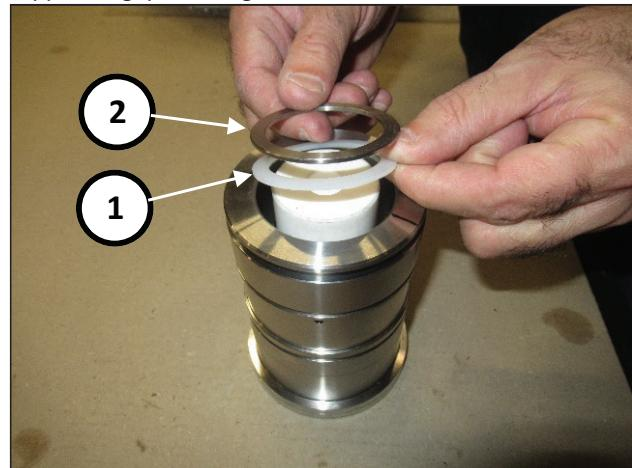

Fig. 182
Insert the anti-extrusion ring (pos. ①, Fig. 182) and the support ring (pos. ②, Fig. 182).